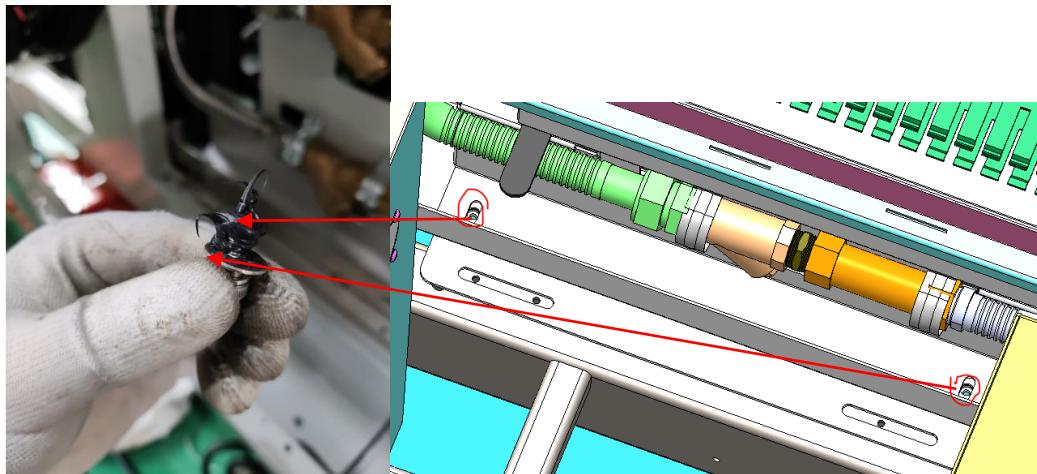

Fig 17
15. Reinstall strainer assembly to oven , connect water tube . fixed screw need use RTV (see Fig 17)